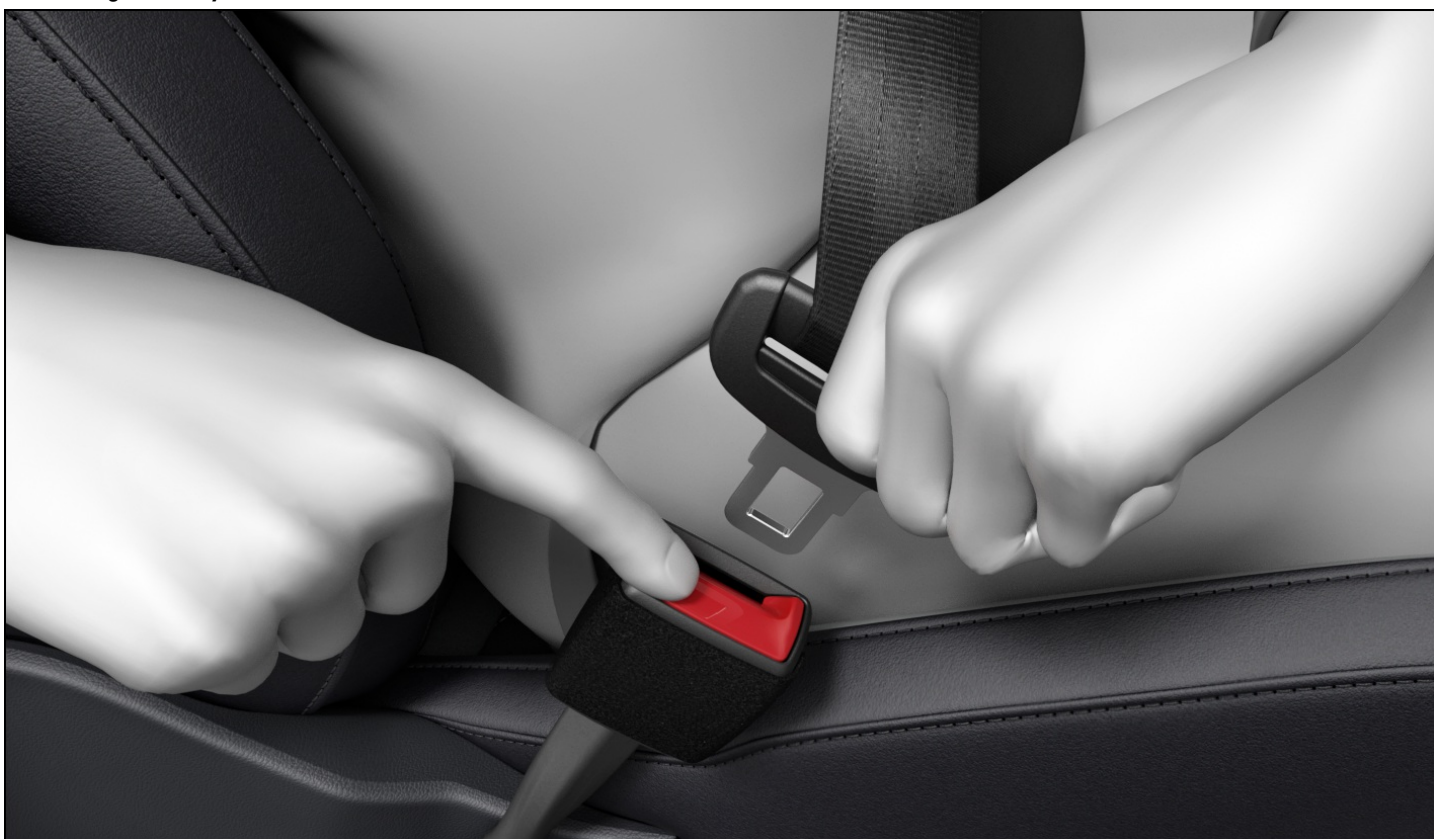

Fig. 31 Releasing the buckle tongue from the safety belt buckle.
1. Press the red button in the safety belt buckle *fig. 31*.